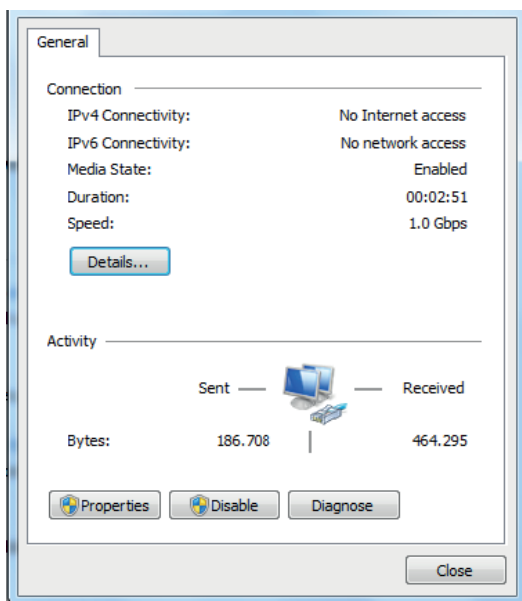

Fig. 7: *LAN connection properties*
2. Click on *LAN Connection* to open the LAN connection status (Fig. 7).